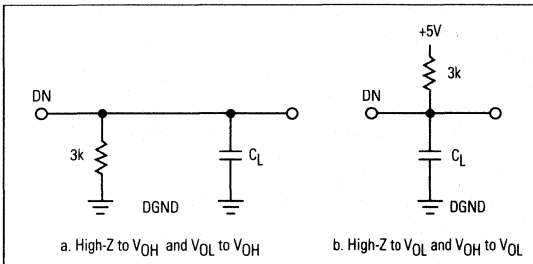

Figure 1. Load Circuits for Access Time
**Note 14:**  $t_3$  and  $t_6$  are measured with the load circuits of Figure 1 and defined as the time required for an output to cross +0.8V or +2.4V.